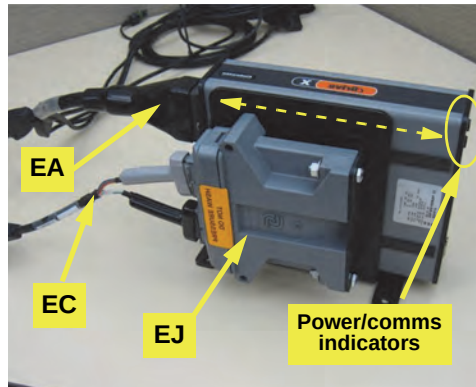

Figure 2a: Cables connected to ECU and steering controller
- a. If not already attached, attach main cable **EA** to **EI** using an Allen wrench to secure it. The **EA** connector only connects with the **EI** socket that is in line with the power and communications indicators at the opposite end of the ECU—the upper socket in this installation (Figure 2a).
Connect steering controller cable **EC**'s two 12-pin connectors (black and gray) to their respective sockets on the steering controller **EJ** (Figure 2a).